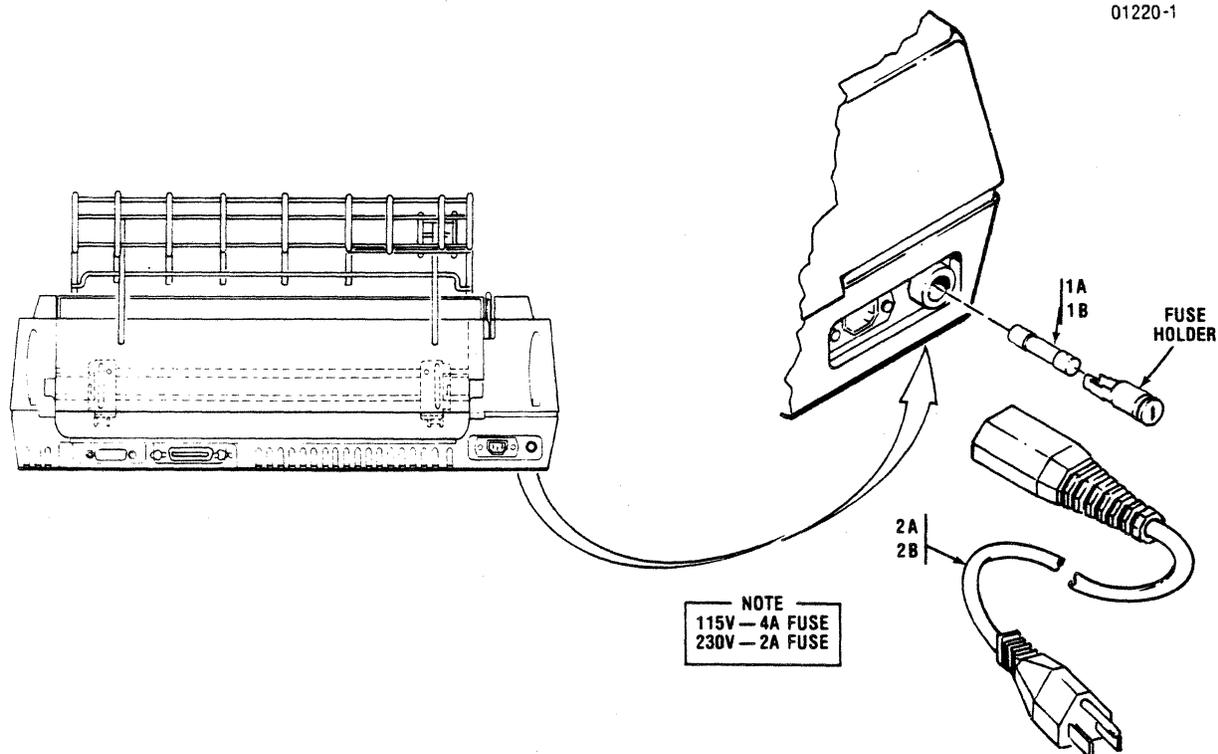

Figure 3-22 Removal/Replacement, Main Fuse and Power Cord
The main fuse, item 1A or 1B of Figure 3-22, is located in the rear of the printer and is removed using a flat blade screwdriver. To remove the fuse, refer to Figure 3-22 and perform the following steps:
Ensure the same type rated fuse is installed when replacing the fuse. Refer to Figure 3-22.
The 8 foot power cord, item 2A or 2B of Figure 3-22, is terminated on one end with a 3-prong grounded plug and terminated on the other end
with a 3-prong receptacle. The cord is removed from the printer by removing the plug end from the external power source, then the receptacle end from the printer. Refer to Figure 3-22.